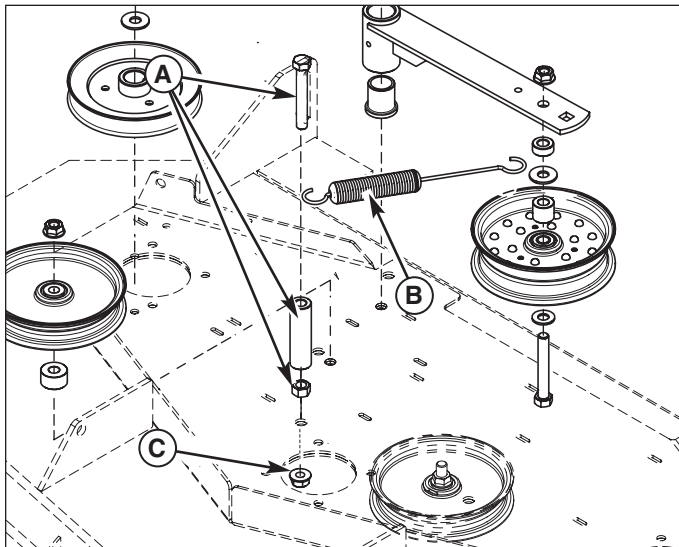

Figure 2. Removing the Spring Anchor
5. Loosen and remove the 1/2-13 hex nylock flange nut (C, Figure 2) that secures the spring anchor bolt assembly (A) to the mower deck.